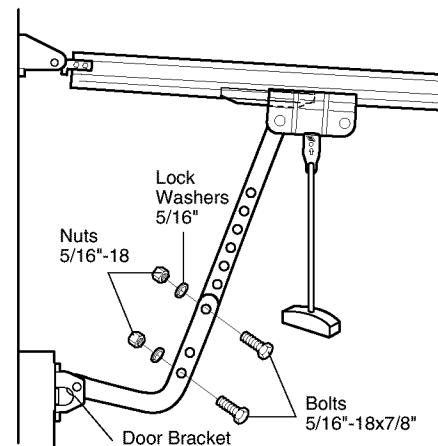

Figure 2
- Center the door bracket on the previously marked vertical centerline used for the header bracket installation. Note correct UP placement, as stamped inside the bracket. (Figure 2).
If your installation doesn't require vertical reinforcement but does need top and bottom fastening holes for the door bracket, fasten as shown in Figure 2.
• Figure 2: